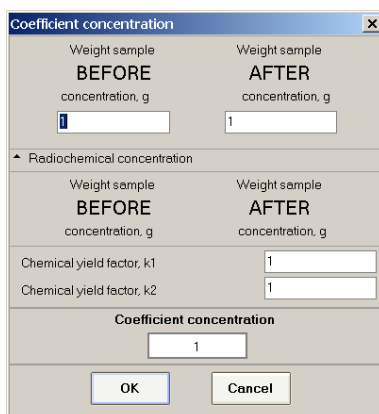

Figure 14. **Coefficient of concentration** window view
**Coefficient** – value of the coefficient of concentration, rel. units. To get help in determining the coefficient of concentration (including cases of radiochemical concentration), the user may open an additional window, where this coefficient will be calculated. To open the additional window, click in the field and press , which will appear on the right side of the field (see Fig.14).